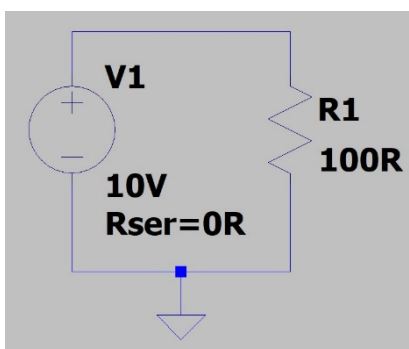

Figure 1: Resistor connected to a voltage source
- 9) Draw the circuit of Figure 1 below. The steps needed to draw this circuit are outlined underneath.
- Add all wires to complete the circuit of Figure 1